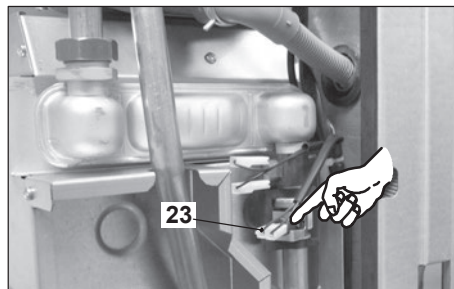

Fig. 8.3
- Disconnect the electrical connectors of the C.h. temperature probe NTC 23 in Fig. 8.3
- Connect the electrical connectors of the C.h. temperature probe NTC 23 in Fig. 8.3.